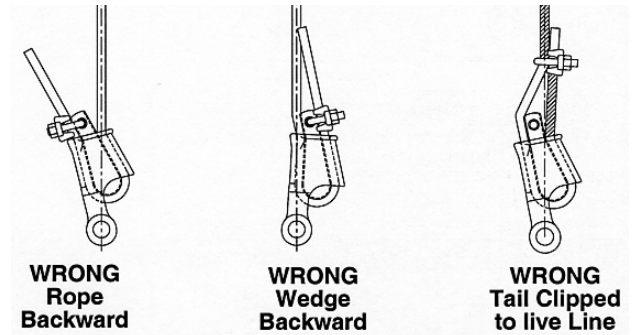

Figure 2-5 Incorrect assembly examples
- Do not attach dead end to live end or install wedge backwards (See Figure 2-5).